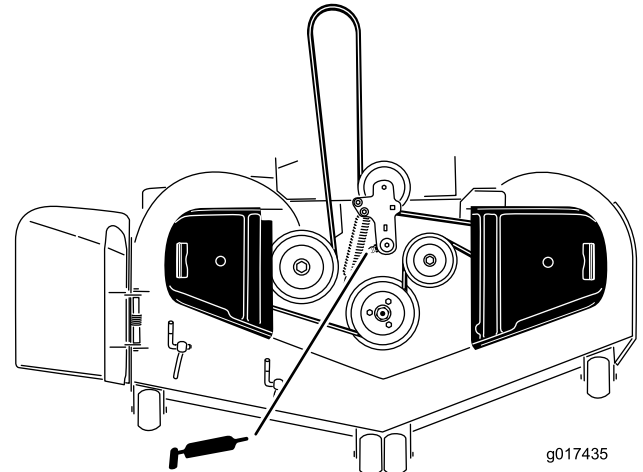

Figure 35
3. Grease the mower deck idler pulley pivot until grease come out the bottom (Figure 35).